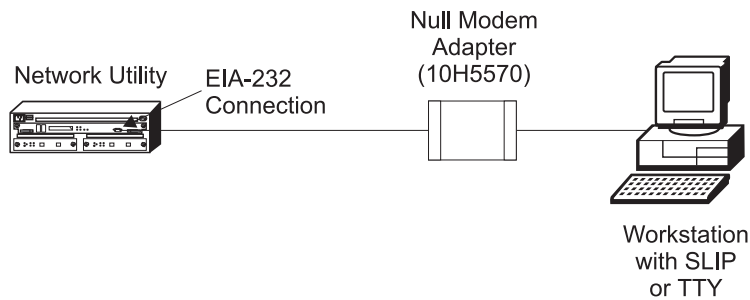
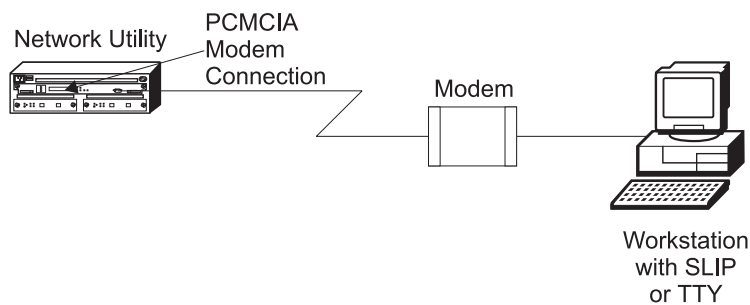

Figure 2-1. Local Workstation Serial Connection to the EIA 232 Port
Figure 2-2. Remote Serial Connection to the PCMCIA Modem
- Local connection through a null-modem cable attached to the EIA 232 service port (see Figure 2-1 on page 2-2). This type of connection uses the null-modem adapter and the two 9-to-25 pin serial cables that are supplied with this product.
- Remote dial-in (using telephone lines) through the PCMCIA modem (see Figure 2-2 on page 2-2)
If you are a **new user and are physically adjacent to the Network Utility** - Attach a workstation directly to the unit (see Figure 2-1 on page 2-2) using ASCII terminal emulation for your terminal console (see "ASCII Terminal Setup and Usage"). The key advantages to this method are:
Attach an ASCII terminal or emulator (with the appropriate emulation software) to provide local or remote access as shown in Figure 2-2 on page 2-2 and Figure 2-1 on page 2-2.